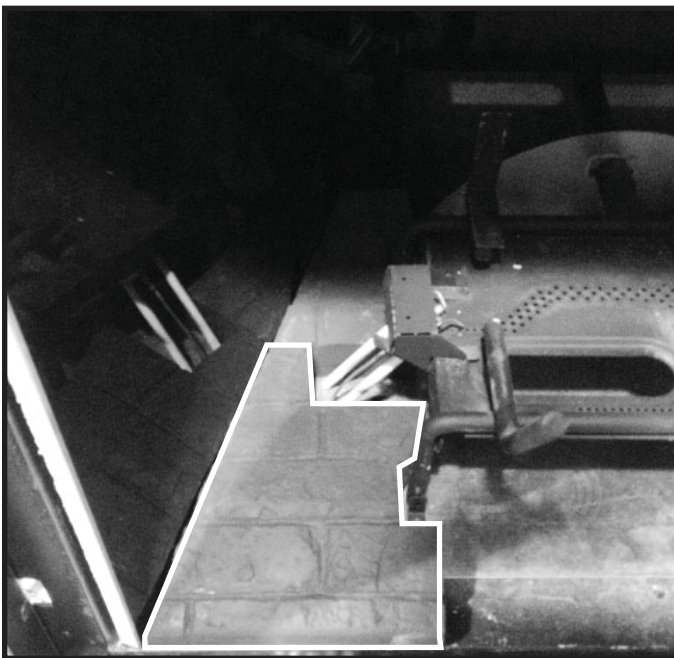
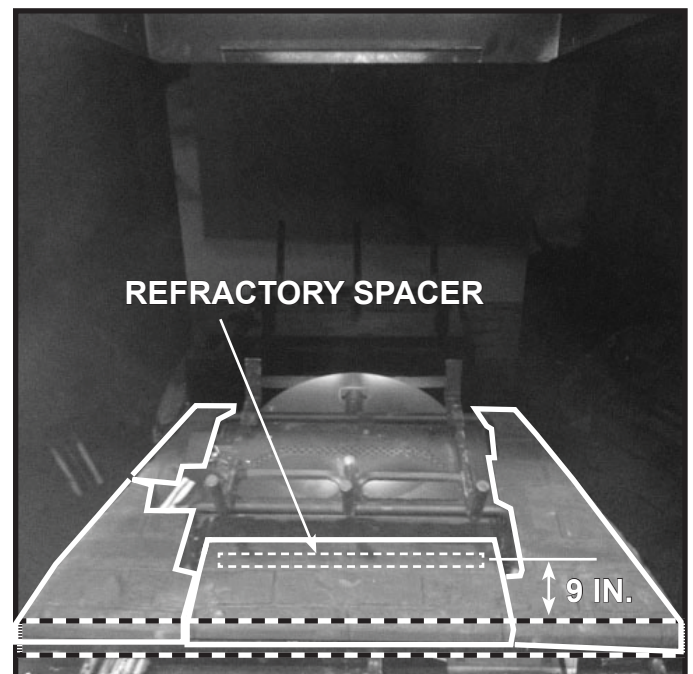

Figure 15. Left Front Base Refractory
Figure 17. Refractory Set Installed
14. Install left front base refractory as shown in Figure 15, ensuring that the front lip is flush with the firebox. See Figure 15 and Figure 17.
16. Install center base refractory with seams aligned as shown in Figure 17. Be sure that the refractory is flush with firebox lip, and the rear portion of the center refractory is resting on the refractory spacer that was installed in the previous step.